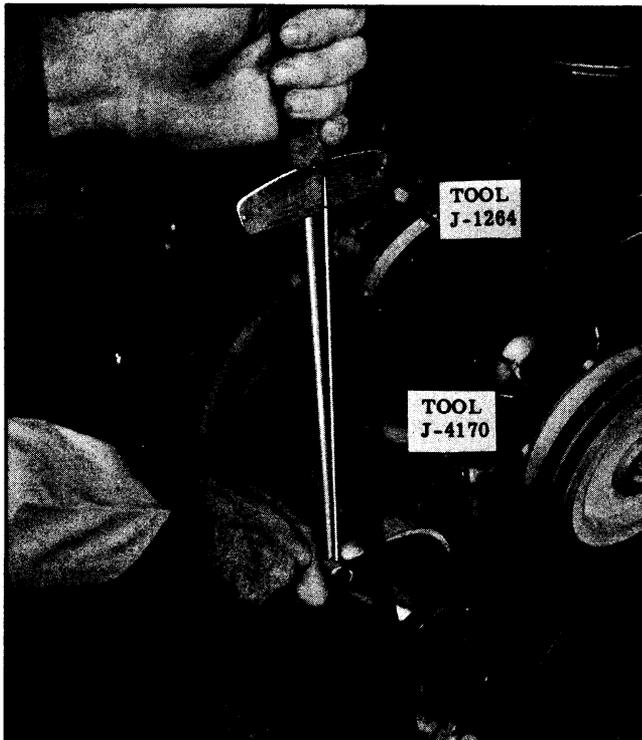

Fig. 14-13 Adjusting Compressor Belts
2. Place Tool J-4170 under generator as shown in Fig. 14-13.